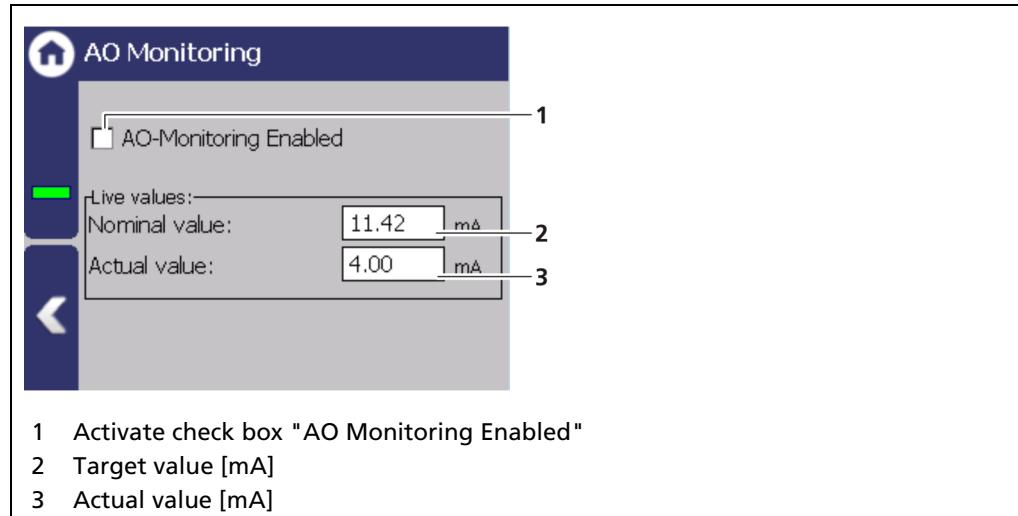

Fig. 115 Analog Output Monitoring
If "AO Monitoring" is activated (Fig. 115, item 1), the current output will be monitored. It is continuously monitored whether the current value flowing in the current loop is correct.